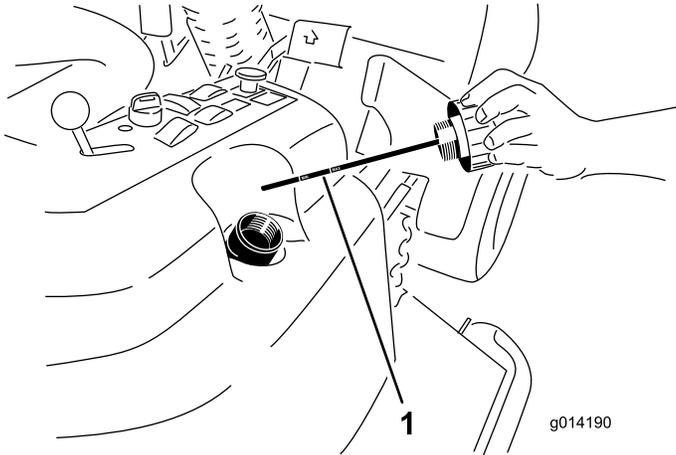

Figure 40
4. Remove the hydraulic-fill cap (Figure 40) from the filler neck.
5. Remove the dipstick and wipe it with a clean rag (Figure 40).
6. Screw the dipstick all the way into the filler neck; then remove it and check level of fluid (Figure 40).